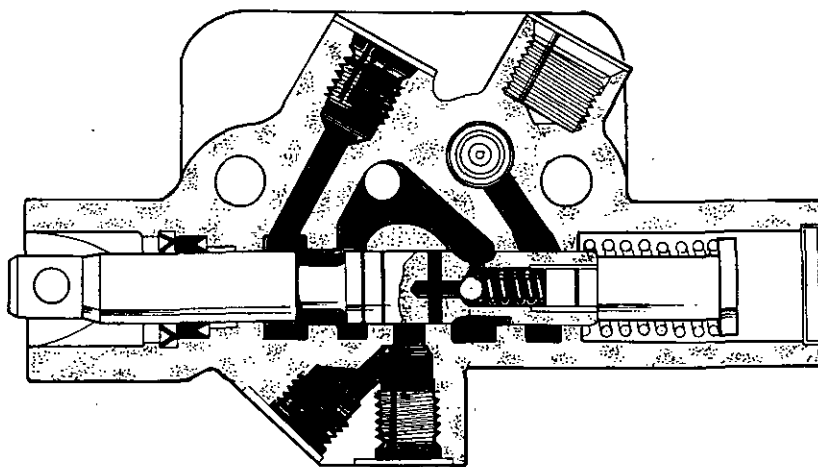

FIG. 34
Fig. 34. Movement of the lever to the EXT 2 position (i.e. lever to the right) permits oil to flow from the inlet port (K) where the flow is diverted by the spool to the EXT 2 port (134). The flow to EXT 1 (128) and the ram cylinder is isolated.